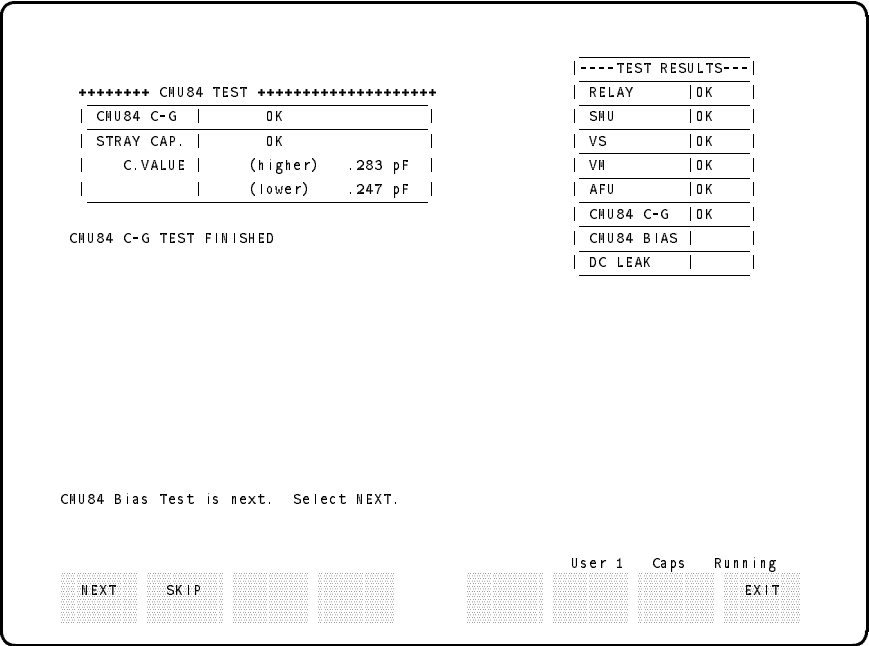

Figure 2-21. CMU84 C-G Test Result Page for an HP 4284A
2. Select the **CMU84 C-G** softkey. If performing the SEQ Test, select the **NEXT** softkey. (To skip this test, select the **SKIP** softkey.) The CMU84 C-G Test starts immediately. After the CMU84 C-G Test is finished, test results are displayed as shown in Figure 2-21.